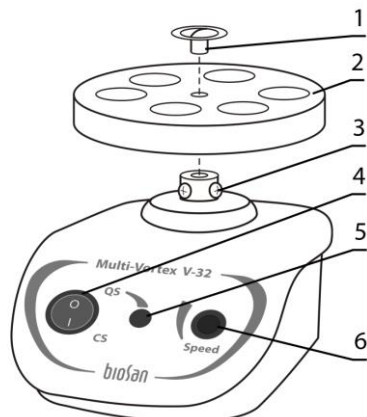

Figure 2. V-32, front view
- Using a flat screwdriver, unscrew black screw at the middle of the platform (fig. 2/1) and remove it together with the washer.
- Using a Phillips screwdriver, loosen two fixing screws (fig. 2/3) on the rotor under the platform.
- Remove and replace the platform (fig. 2/2), fix the platform in place in opposite order.